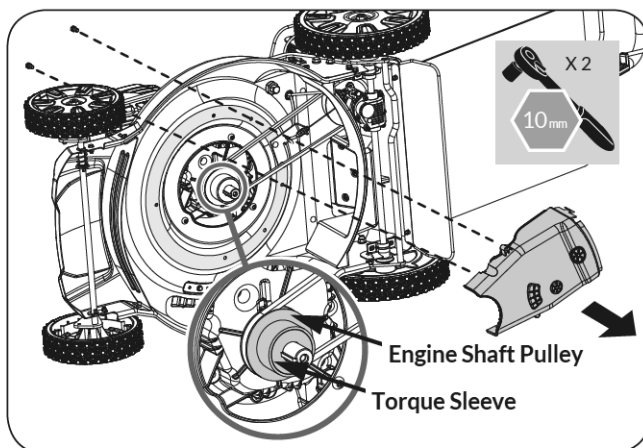

Figure 16
3. Remove the belt cover. (See **Figure 16**)